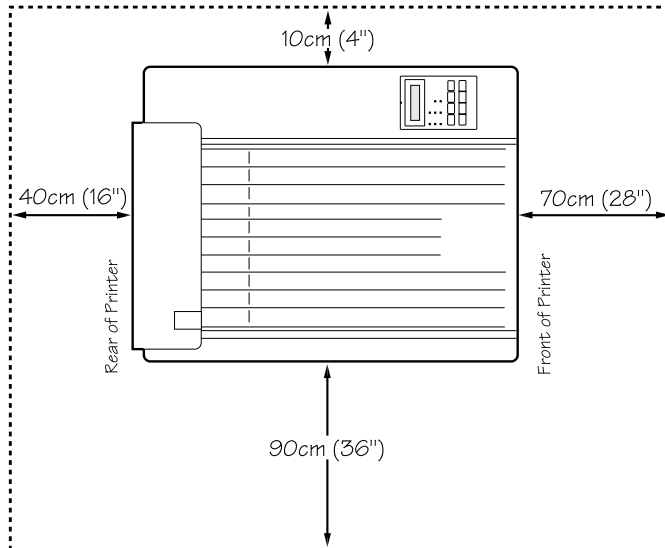

Fig. 2.1 Printer Clearance
- With enough space for you to open the printer and to access the paper cassette(s). Figure 2.1 illustrates the proper clearance for your printer.